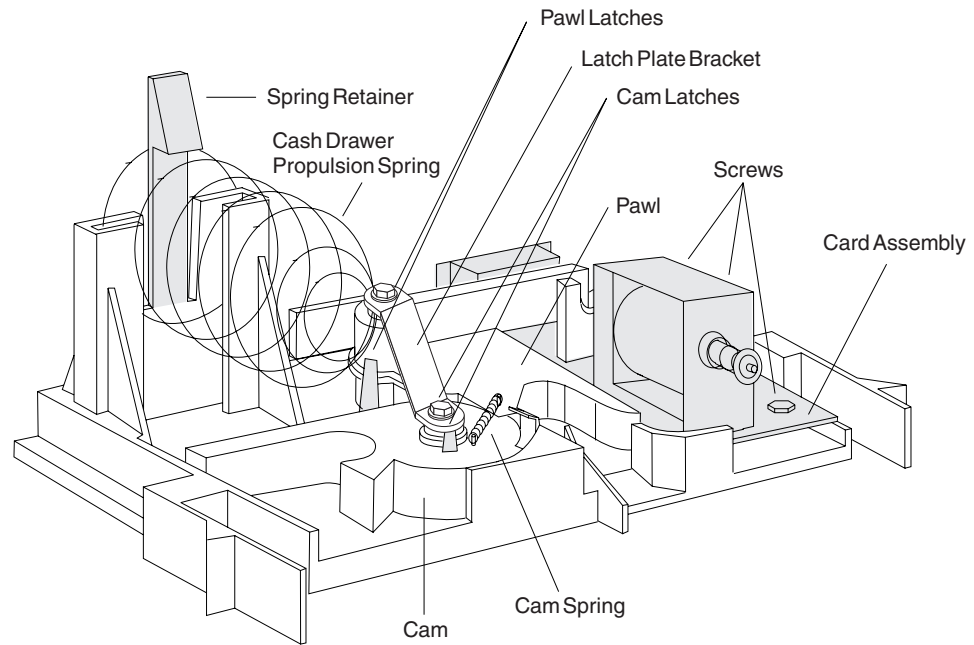

Figure 96. Cash-drawer latch and sensor assembly
4. Remove the cash-drawer propulsion spring by pushing the spring retainer back, and then slide the spring up and out of its mounting slots (see Figure 96).
5. Remove the latch plate bracket by removing the screw in the cam pivot post and the screw in the pawl pivot post (see Figure 96).
6. Remove the cam spring by lifting the ends of the small posts on the cam and the pawl (see Figure 96).
7. Spread apart the two pawl latches that hold the pawl on the pivot post, while lifting the pawl off the post (see Figure 96).
8. Spread apart the two cam latches that hold the cam on the pivot post, while lifting the cam off the post (see Figure 96).
9. Remove the three screws that retain the card assembly and remove the card assembly (see Figure 96).